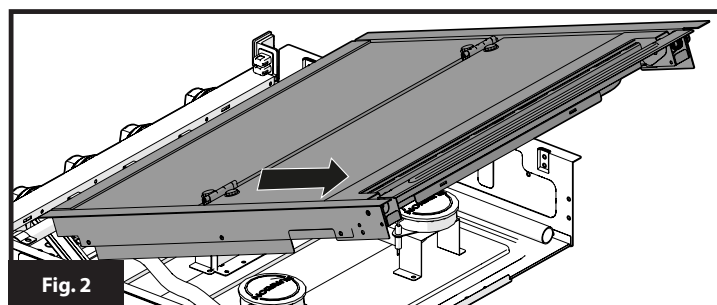

Fig. 2
3. Push a little and lift to remove the top glass cover from the cooktop. (Fig. 2)